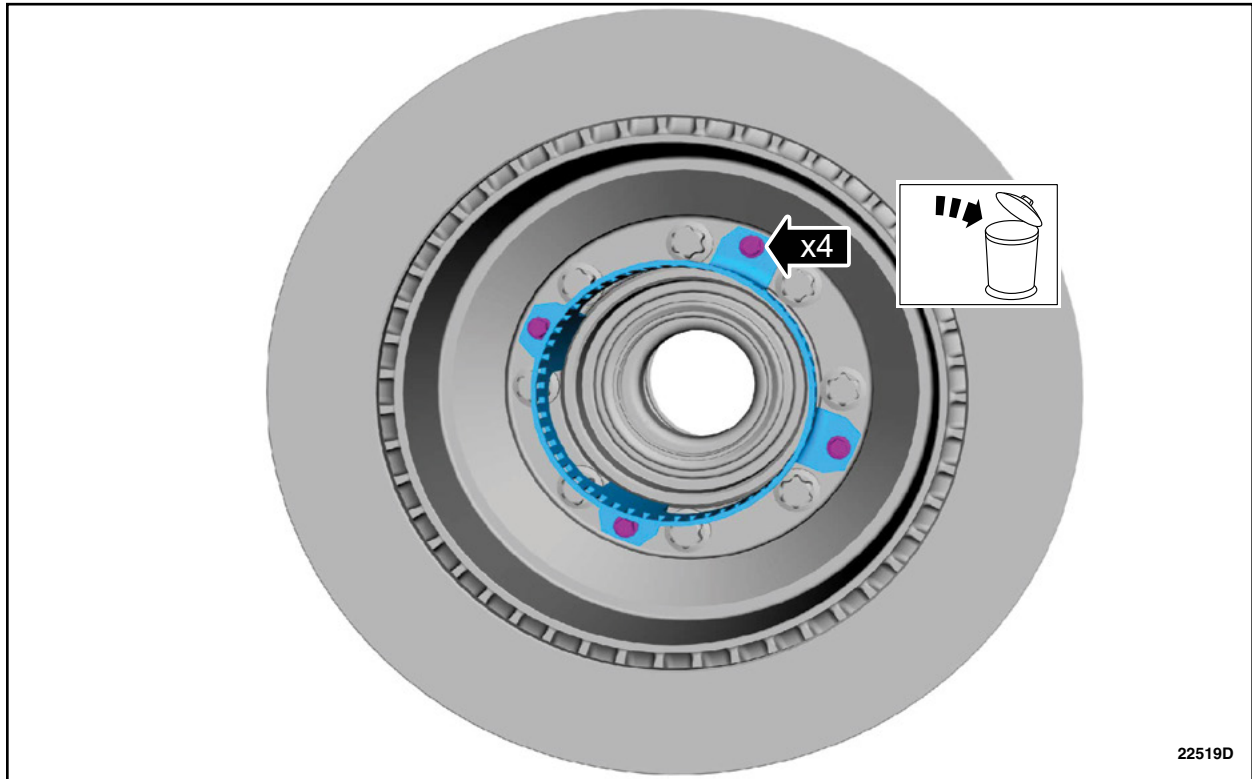

FIGURE 6
6. Remove and discard the rear wheel speed sensor bolts and the rear wheel speed sensor rings on both sides of the vehicle. See Figure 6.